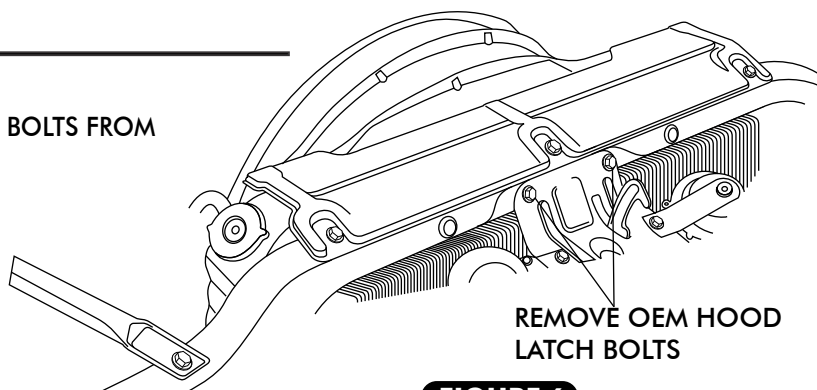

FIGURE 6
- ☐ REMOVE 2 OEM HOOD LATCH BOLTS FROM HOOD LATCH ASSEMBLY SEE FIGURE 6 BELOW.